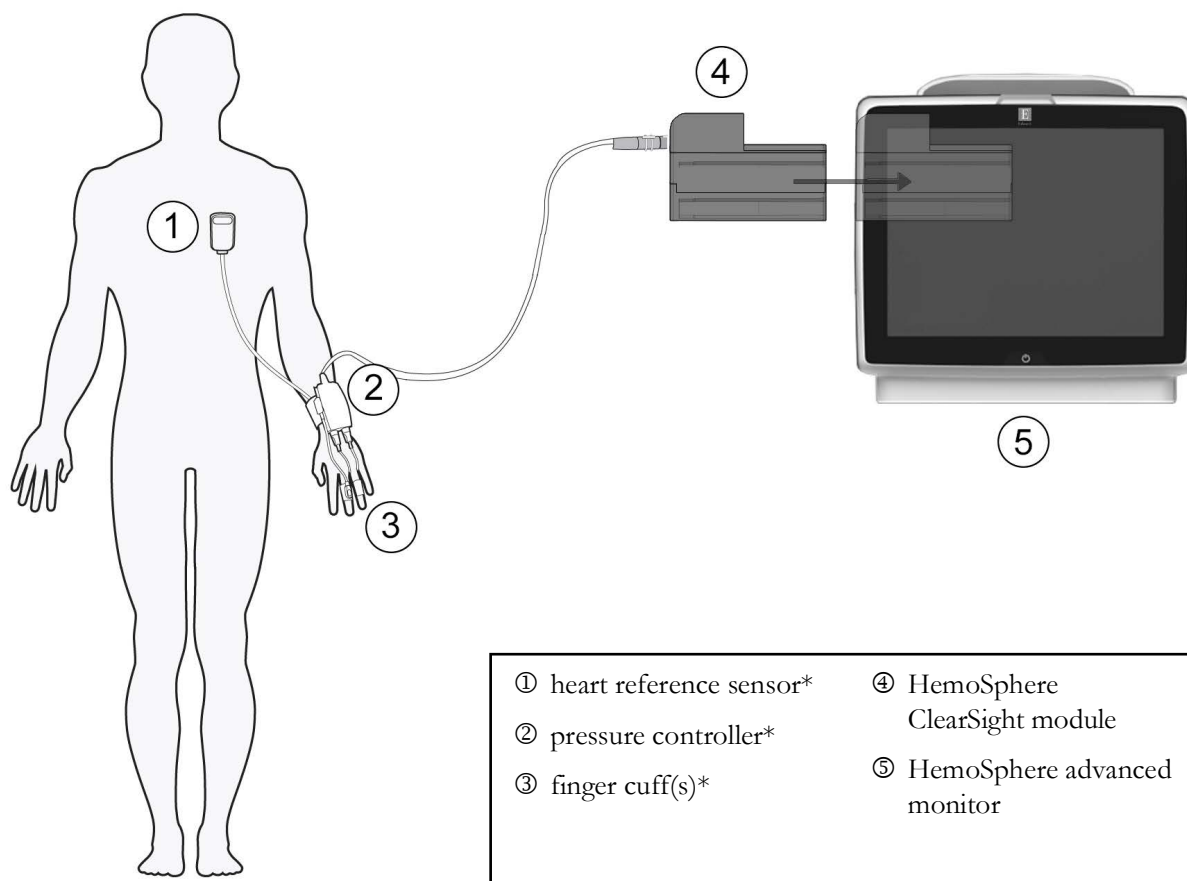
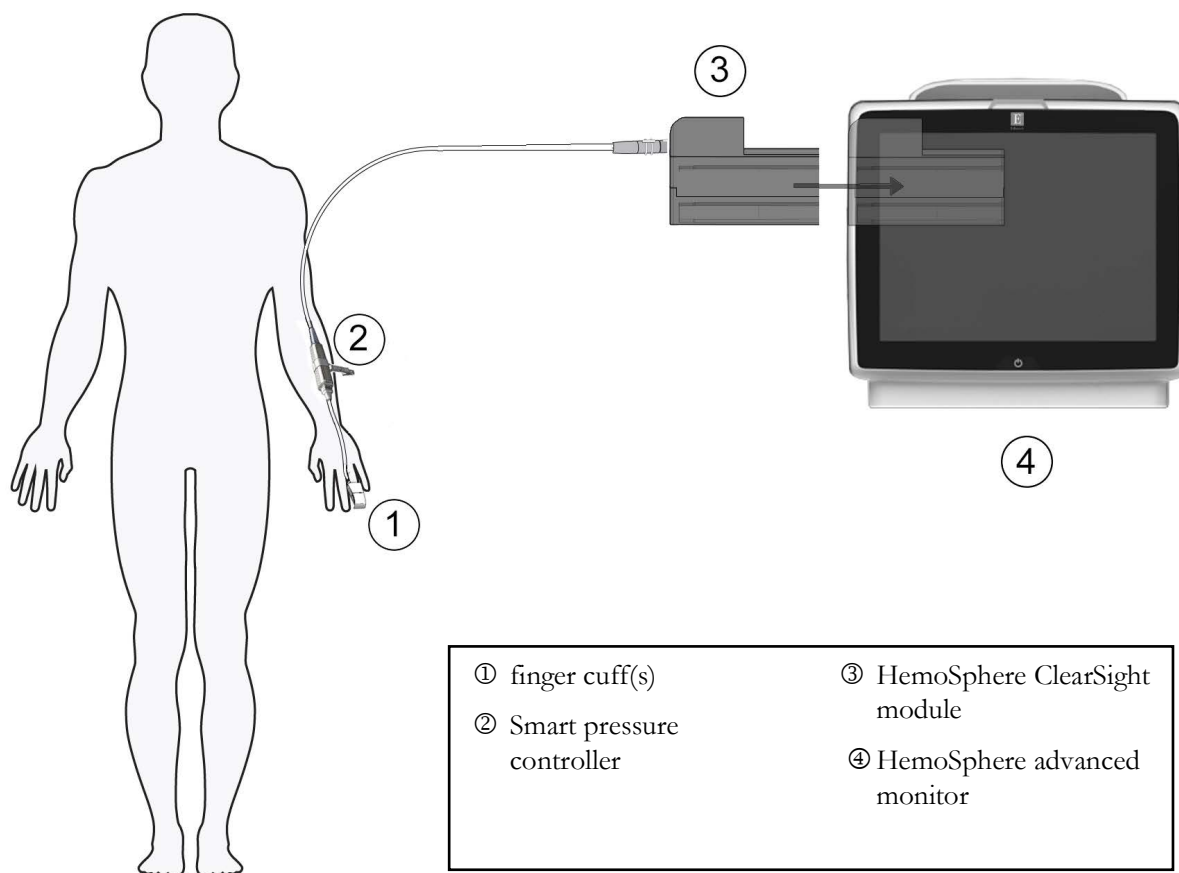

Figure 4-5 HemoSphere non-invasive system connection overview (wrist applied pressure controller)
Figure 4-6 HemoSphere non-invasive system connection overview (Smart pressure controller)
- 5 Connect the wrist applied pressure controller (figure 4-5) or Smart pressure controller (figure 4-6) to the HemoSphere ClearSight module.